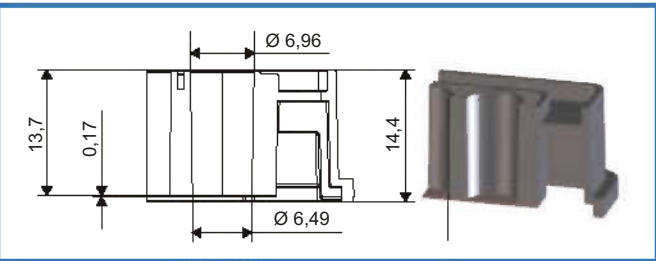

Figure 1: Well design of a 96 well CELLview™ plate
- Enable complete periphery access for high magnification objectives (Fig. 1)
Figure 1: SCREENSTAR recessed microplate wells enable complete periphery access for high magnification objectives. 40 x water immersion objective for microscopic detection in a 96 well SCREENSTAR microplate. The SCREENSTAR microplate recessed well bottom allows a close proximity for the objectives to fully access all microplate wells.